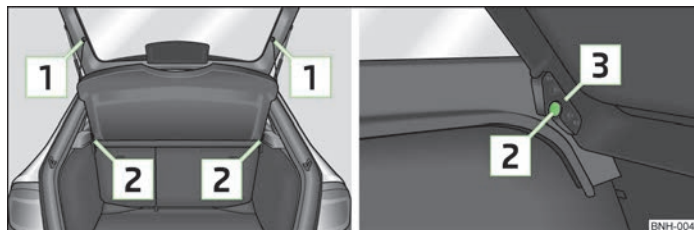

Fig. 41 Removing the boot cover
- Unhook the support straps » Fig. 41.
- The mounts of the cover **3** » Fig. 41 must be positioned above the holders **2** of the side trim panel.
- The mounts of the cover **3** » Fig. 41 must be interlocked in the holders of the side trim panel **2**.